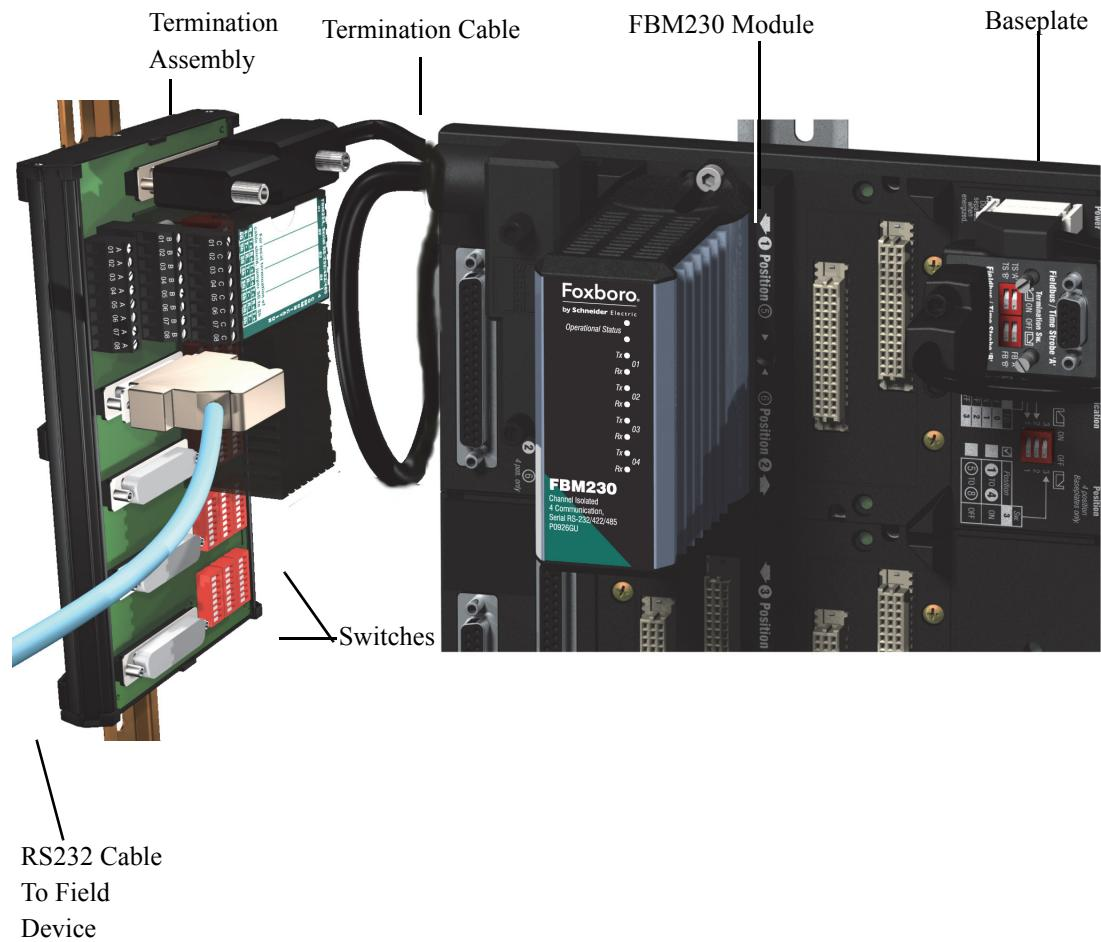

Figure 4-1. FBM230 and Termination Assembly
A typical FBM230 installation is shown in Figure 4-1. As shown in Figure 4-1, the FBM230 mounts on the baseplate, and the termination assembly (TA) connects to the baseplate by means of a termination cable.